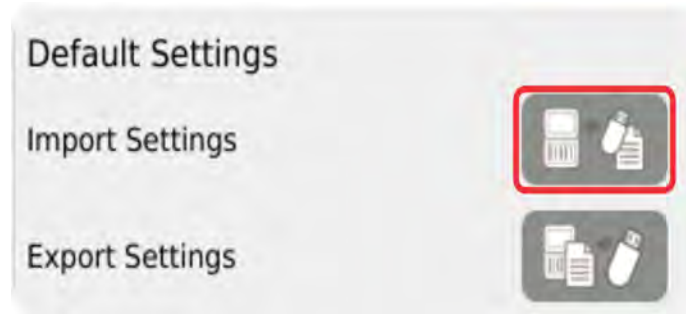

Figure 6-7 Import Default Screen Settings
3. In the Default Settings area of the System Setup screen, select the **Import Settings** button (refer to Figure 6-7).